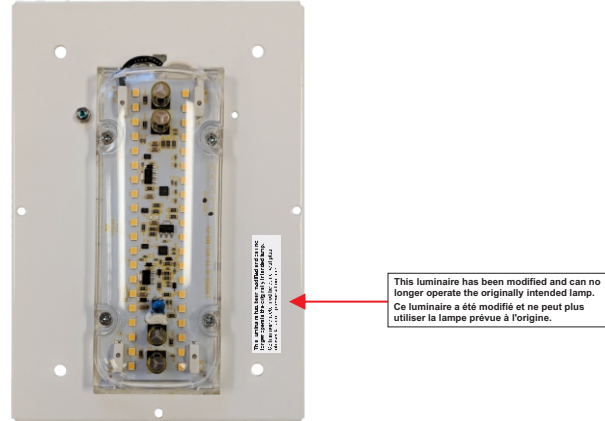

Figure 4
- Place the provided Retrofit Label (C) on the luminaire back plate in a readily visible location to anyone attempting to service the luminaire. See Figure 4.
- Completed retrofit should look like Figure 4.